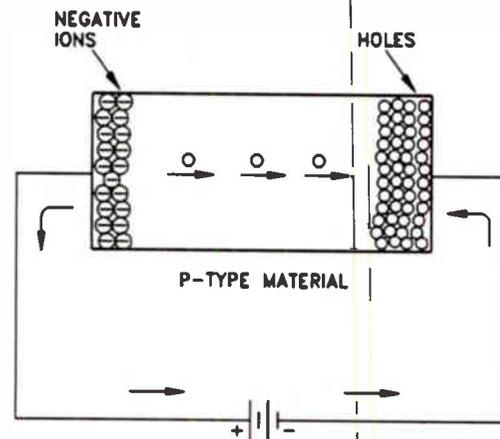

Figure 7. P-type crystal with voltage applied to it.
**P-Type Materials.** Conduction through p-type material is quite different from conduction through n-type material. In the p-type semiconductor, nearly all the current is carried by holes. When a battery is connected to a p-type semiconductor, as shown in Fig.7, the voltage causes the holes to drift toward the negative terminal. They are repelled by the positive battery terminal and attracted by the negative potential applied to the other end. When a hole starts moving away from